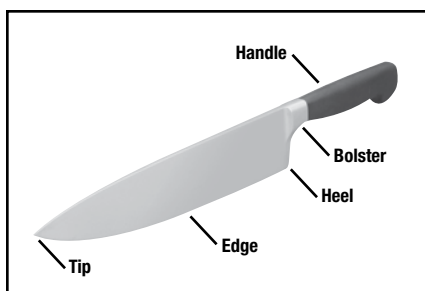
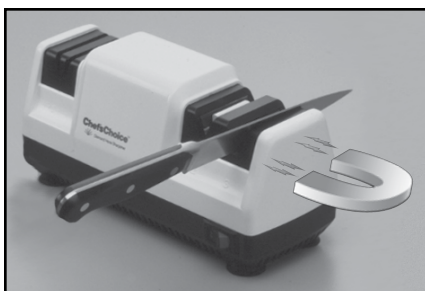

Figure 2. Typical kitchen knife.
Figure 3. Magnets control the blade angle.
2. Pick up a kitchen knife (Figure 2) and place the heel area of the knife blade in any of the sharpening slots (Figure 3). Loosen your grip. You will notice that the knife will be pulled to the side of the slot and down into the slot by a magnet.